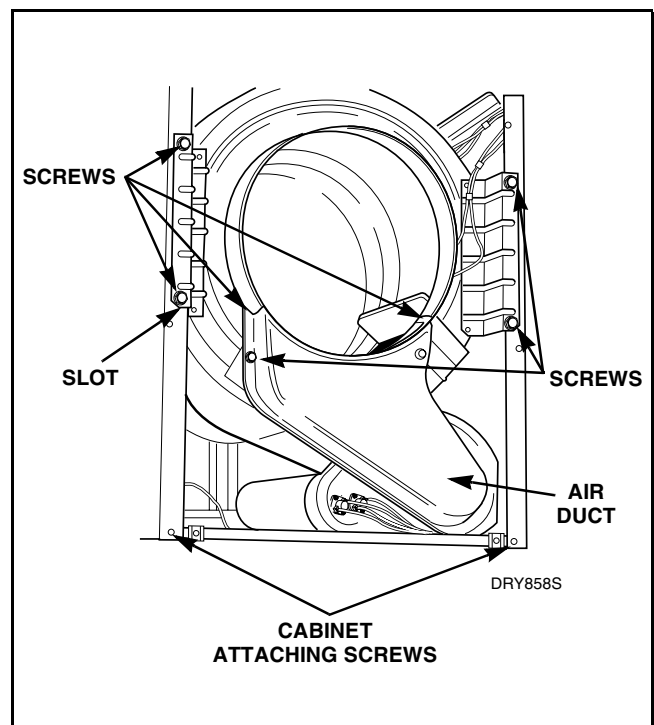

Figure 30
- Remove two cabinet top hold-down screws. Refer to *Figure 30*.
- Remove four screws holding bulkhead to front flange of cabinet and lift complete bulkhead assembly out of slots in cabinet. Refer to *Figure 30*.
- f. Remove four screws holding bulkhead to front flange of cabinet. Lift complete bulkhead assembly out of slots in cabinet. Refer to *Figure 30*.
- Remove four screws holding bulkhead to front flange of cabinet. Lift complete bulkhead assembly out of slots in cabinet. Refer to *Figure 30*.
- Loosen two cabinet top hold-down screws. Refer to *Figure 30*.
- d. Remove two cabinet top hold-down screws. Refer to *Figure 30*.
- h. Remove four screws holding bulkhead to front flange of cabinet. Lift complete bulkhead assembly out of slots in cabinet. Refer to *Figure 30*.